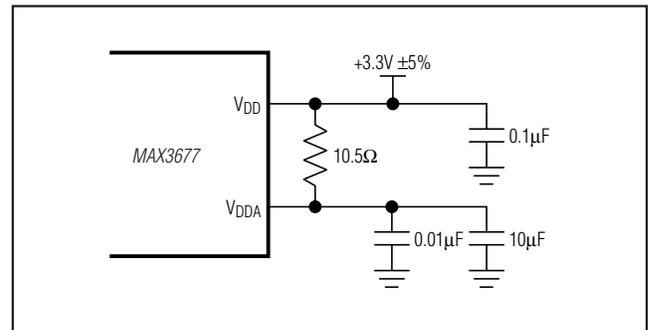

Figure 4. Analog Supply Filtering
- Note 1:** A series resistor of up to  $10.5\Omega$  is allowed between  $V_{DD}$  and  $V_{DDA}$  for filtering supply noise when system power-supply tolerance is  $V_{DD} = 3.3V \pm 5\%$ . See Figure 4.
The MAX3677 is a mixed analog/digital IC. The PLL contains analog circuitry susceptible to random noise. To take full advantage of on-board filtering and noise attenuation, in addition to excellent on-chip power-supply rejection, this part provides a separate power-supply pin,  $V_{\text{DDA}}$ , for the VCO circuitry. The purpose of this design technique is to ensure clean input power supply to the VCO circuitry and to improve the overall immunity to power-supply noise. Figure 4 illustrates the recommended power-supply filter network for  $V_{\text{DDA}}$ . This network requires that the power supply is +3.3V  $\pm$ 5%. Decoupling capacitors should be used on all other supply pins and placed as close as possible to the pins for best performance.